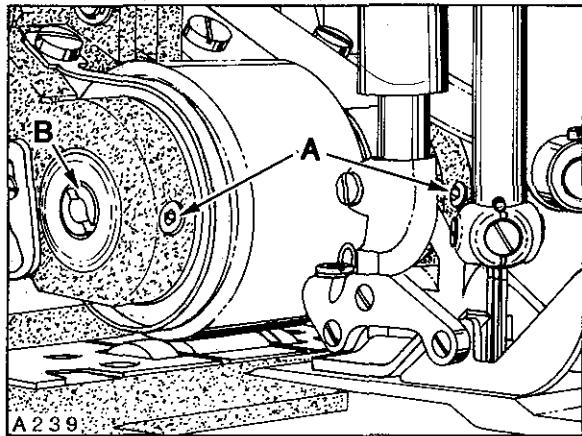

Fig.33
belt guard. It may be necessary to reposition sprockets (B and C) slightly (left and right). Pull down firmly on puller assembly, making sure puller roller is setting evenly on lower roller and tighten two screws (A) securely. The roller puller belt which is located under hinged belt guard (D) should have  $1/8$  inch (3.2mm) deflection when pressing firmly between drive shaft sprocket and drive sprocket. If adjustment is required loosen two allen screws (A, Fig. 33) and turn eccentric shaft (B) slightly to apply tension on belt. Turning shaft clockwise tightens belt, counterclockwise acts the reverse. **CAUTION:** Care must be taken not to disturb eccentric shaft (left or right). Tighten two screws (A) securely.